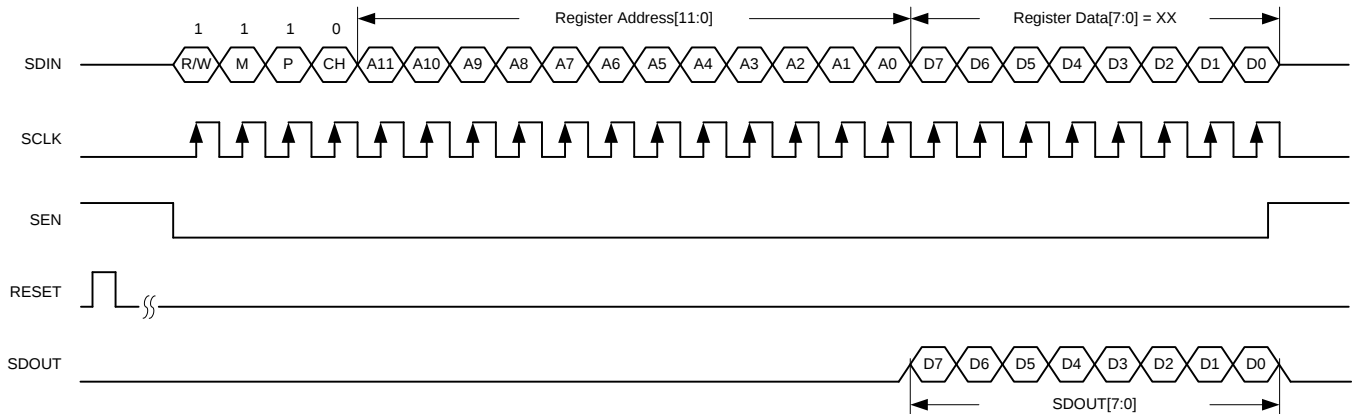

Figure 70. JESD Serial Register Read Timing Diagram
4. Reading back the register content on the SDOOUT pin; see Figure 70. When a page is selected, multiple read backs from the same page can be done.